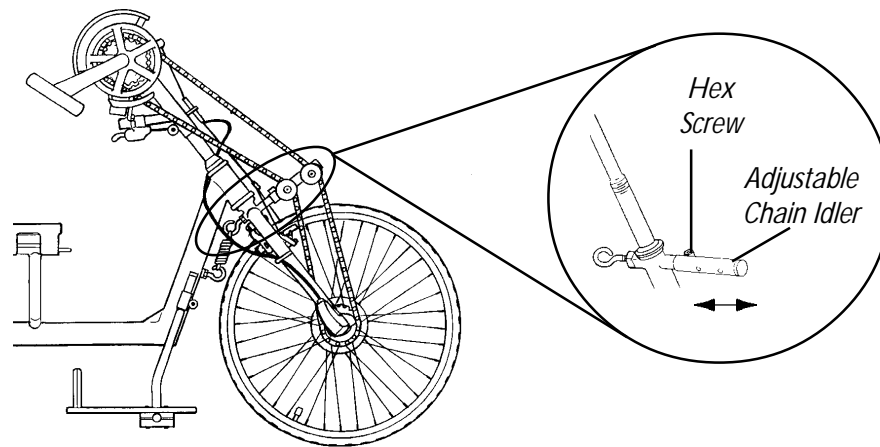

FIGURE 4 - CHAIN ADJUSTMENT
## CHAIN ADJUSTMENT (FIGURE 4)
3. Adjust the tautness of the chain by moving the adjustable chain idler **IN** or **OUT** as shown in FIGURE 4.